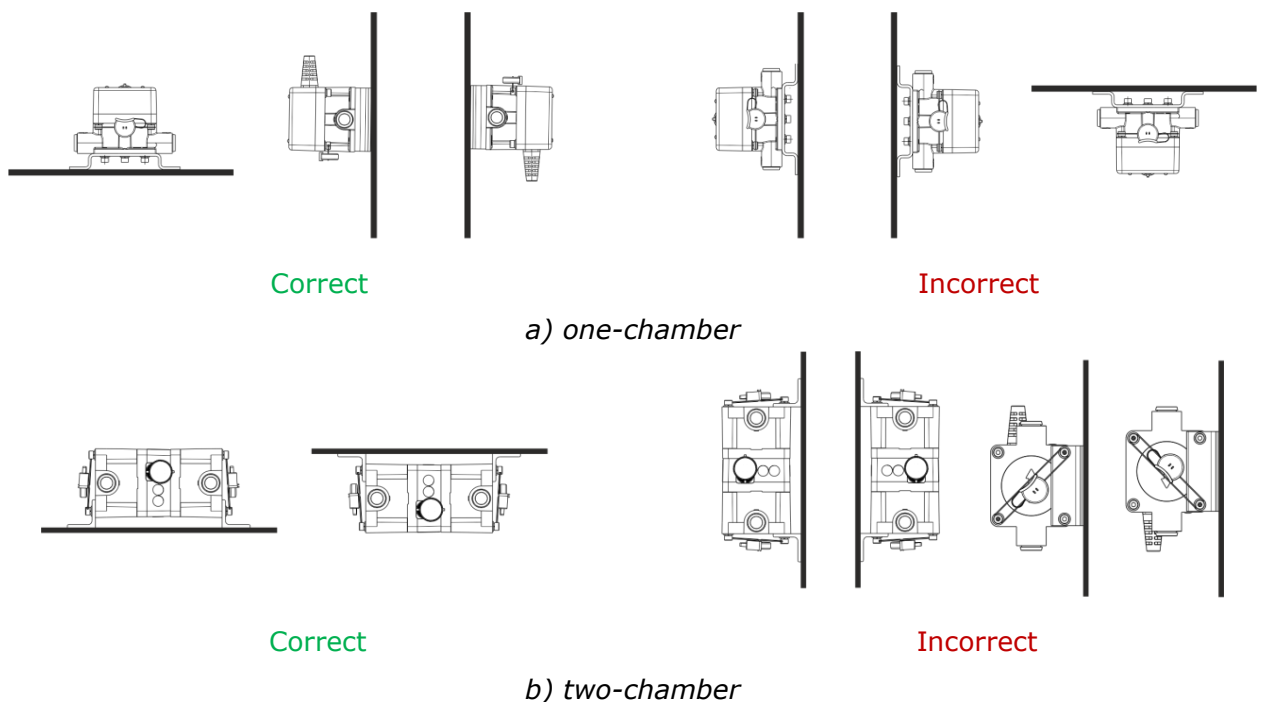

Figure 19 — DFM operating position relative to vertical and horizontal planes
1) In order to ensure the declared accuracy of measurement, one-chamber DFM flow meters should be installed only in "bracket directed down" and "bracket directed sideways" positions (see figure 19 a). Differential DFM should be installed only in "bracket directed down" and "bracket directed up" positions (see figure 19 b).